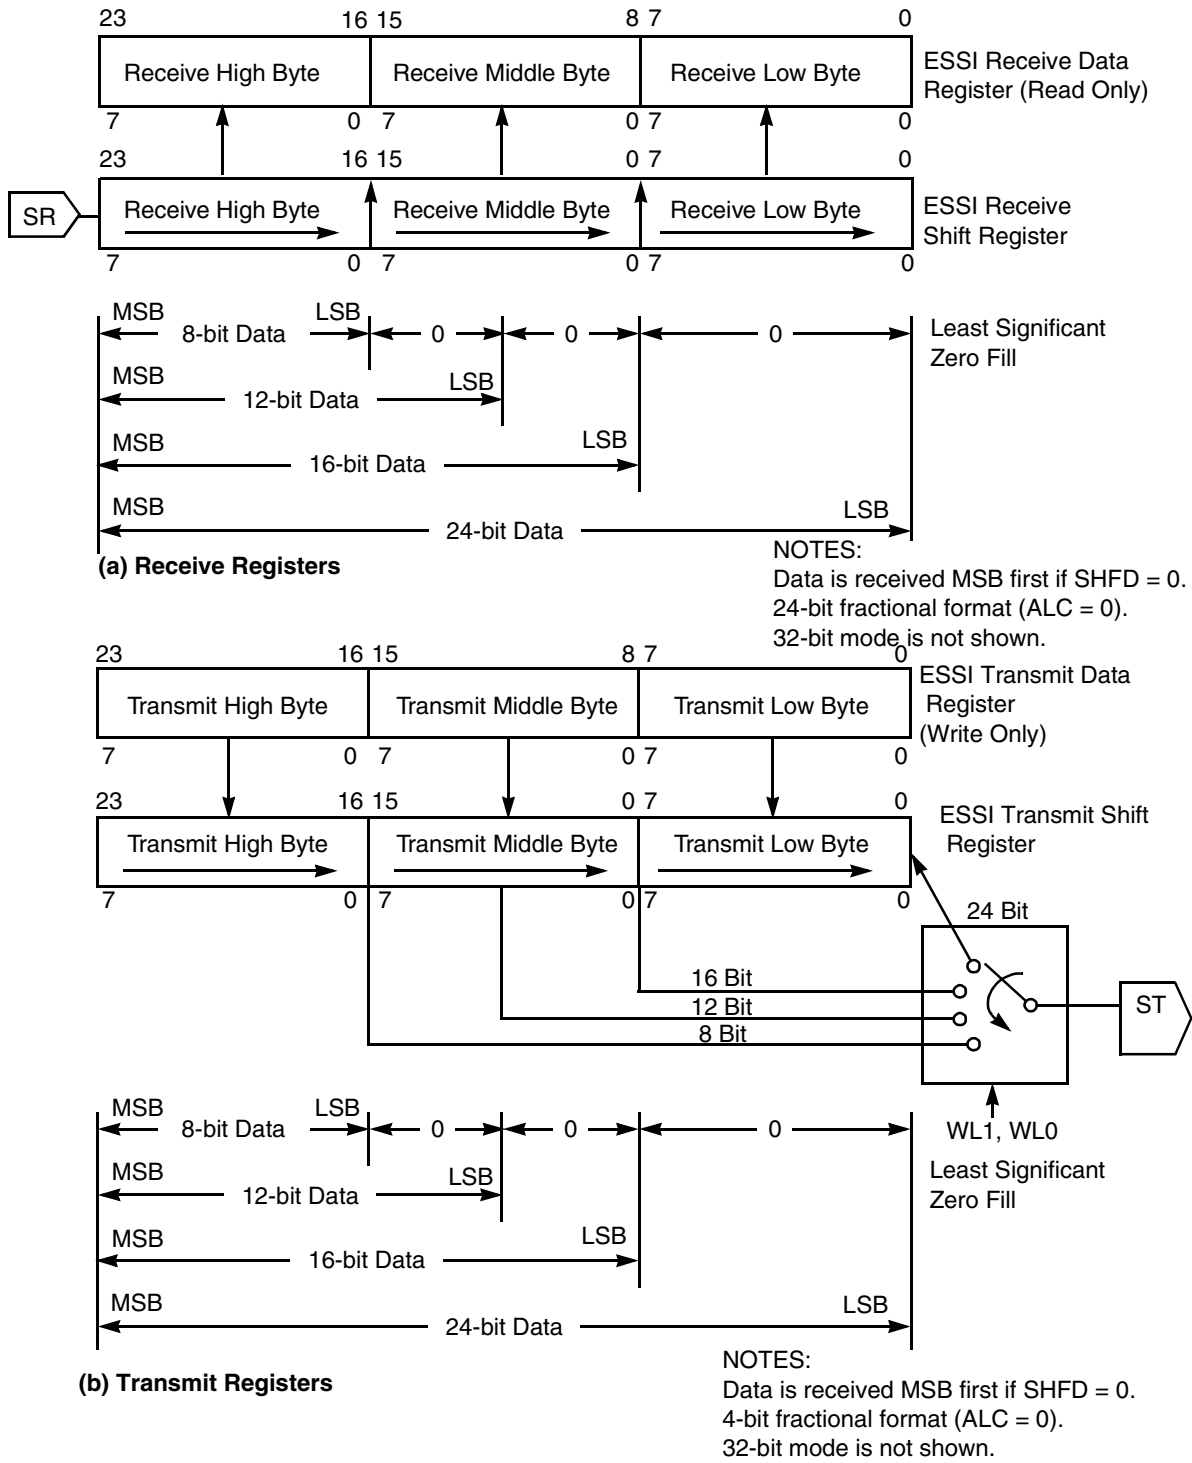

Figure 7-13. ESSI Data Path Programming Model (SHFD = 1)
The 24-bit Receive Shift Register (see **Figure 7-12** and **Figure 7-13**) receives incoming data from the serial receive data signal. The selected (internal/external) bit clock shifts data in when the associated frame sync I/O is asserted. Data is received MSB first if SHFD is cleared and LSB first if SHFD is set. Data transfers to the ESSI Receive Data Register (RX) after 8, 12, 16, 24, or 32 serial clock cycles are counted, depending on the word length control bits in the CRA.
7.5.5 ESSI Receive Data Register (RX)
The Receive Data Register (RX) is a 24-bit read-only register that accepts data from the receive shift register as it becomes full, according to **Figure 7-12** and **Figure 7-13**. The data read is aligned according to the value of the ALC bit. When the ALC bit is cleared, the MSB is bit 23, and the least significant byte is unused. When the ALC bit is set, the MSB is bit 15, and the most significant byte is unused. Unused bits are read as 0. If the associated interrupt is enabled, the DSP is interrupted whenever the RX register becomes full.
The three 24-bit transmit shift registers contain the data being transmitted, as in **Figure 7-12** and **Figure 7-13**. Data is shifted out to the serial transmit data signals by the selected (whether internal or external) bit clock when the associated frame sync I/O is asserted. The word-length control bits in CRA determine the number of bits that must be shifted out before the shift registers are considered empty and can be written again. Depending on the setting of the CRA, the number of bits to be shifted out can be 8, 12, 16, 24, or 32. Transmitted data is aligned according to the value of the ALC bit. When ALC is cleared, the MSB is Bit 23 and the least significant byte is unused. When ALC is set, the MSB is Bit 15 and the most significant byte is
TX2, TX1, and TX0 are 24-bit write-only registers. Data written into these registers automatically transfers to the transmit shift registers. (See **Figure 7-12** and **Figure 7-13**.) The data transmitted (8, 12, 16, or 24 bits) is aligned according to the value of the ALC bit. When the ALC bit is cleared, the MSB is Bit 23. When ALC is set, the MSB is Bit 15. If the transmit data register empty interrupt has been enabled, the DSP is interrupted whenever a transmit data register becomes empty.
TSMA and TSMB (as in **Figure 7-12** and **Figure 7-13**) can be seen as a single 32-bit register, TSM. Bit n in TSM (TSn) is an enable/disable control bit for transmission in slot number N. When TSn is cleared, all the data signals of the enabled transmitters are tri-stated during transmit time slot number N. The data still transfers from the enabled transmit data register(s) to the transmit shift register. However, the TDE and the TUE flags are not set. Consequently, during a disabled slot, no transmitter empty interrupt is generated. The DSP is interrupted only for enabled slots. Data written to the transmit data register when the transmitter empty interrupt request is serviced transmits in the next enabled transmit time slot. When TSn is set, the transmit sequence proceeds normally. Data transfers from the TX register to the shift register during slot number N, and the TDE flag is set. The TSM slot mask does not conflict with the TSR. Even if a slot is enabled in the TSM, you can chose to write to the TSR to tri-state the signals of the enabled transmitters during the next transmission slot. Setting the bits in the TSM affects the next frame transmission. The frame being transmitted is not affected by the new TSM setting. If the TSM is read, it shows the current setting.
RSMA and RSMB (as in **Figure 7-12** and **Figure 7-13**) can be seen as one 32-bit register, RSM. Bit *n* in RSM (RS*n*) is an enable/disable control bit for time slot number *N*. When RS*n* is cleared, all the data signals of the enabled receivers are tri-stated during time slot number *N*. Data transfers from the receive data register(s) to the receive shift register(s), but the RDF and ROE flags are not set. Consequently, during a disabled slot, no receiver full interrupt is generated. The DSP is interrupted only for enabled slots. When RS*n* is set, the receive sequence proceeds normally. Data is received during slot number *N*, and the RDF flag is set.